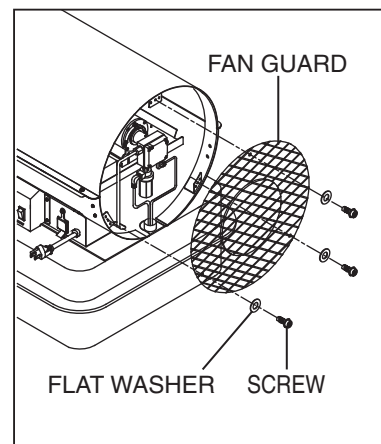

Figure 13. Remove Fan guard
- Remove fan guard (See Figure 13)
- Use 3/8" wrench and tighten fuel lines (B) at pump, pump fuel filter assembly.